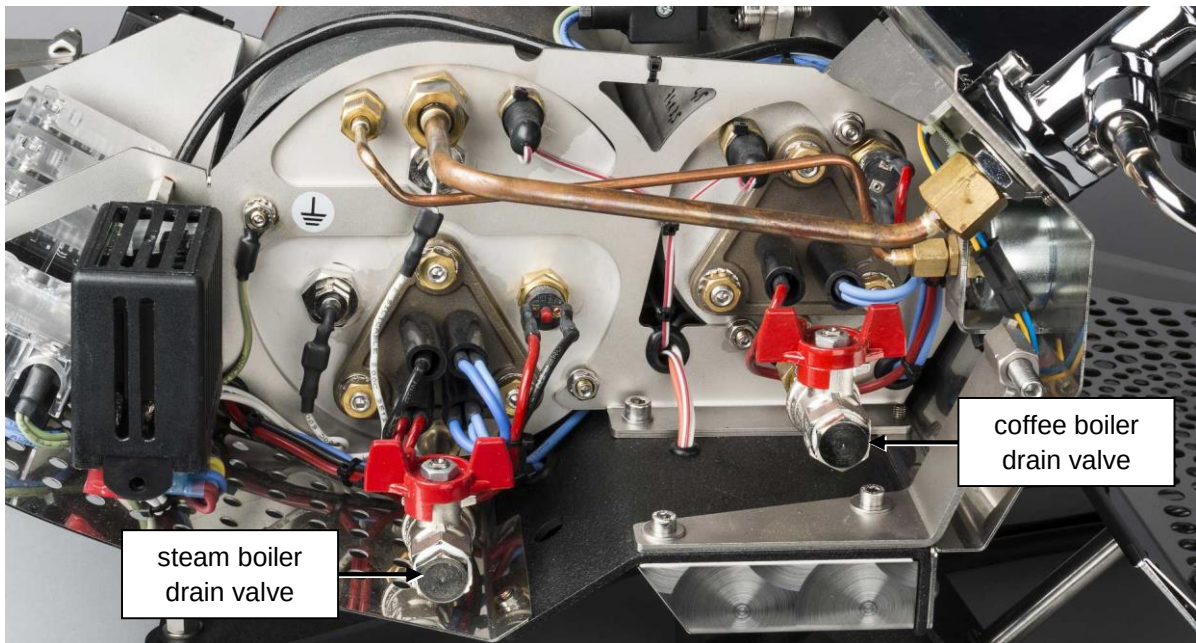

Figure M 22. Showing steam boiler drain valve on the left and coffee boiler drain valve on the right. Plugs have to be removed to fit hose adapter on valve.
6. Remove plug from steam/hot water boiler drain valve with a 17 mm spanner (see Figure M 22).